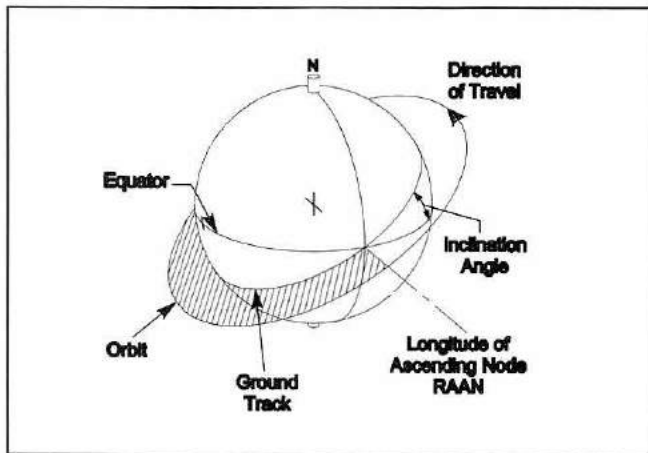

Fig 2-29—Inclination and RAAN.
*Inclination, I0* (degrees): Satellite orbits are best described as an elliptical motion within a flat plane in inertial space. The tilt of this plane with regard to the Earth's equator is the angle called Inclination. If I0 is zero degrees, then the orbit is in the equatorial plane, typical for most geostationary communications satellites, while a value of 90 degrees describes a polar orbit. See Fig 2-29.